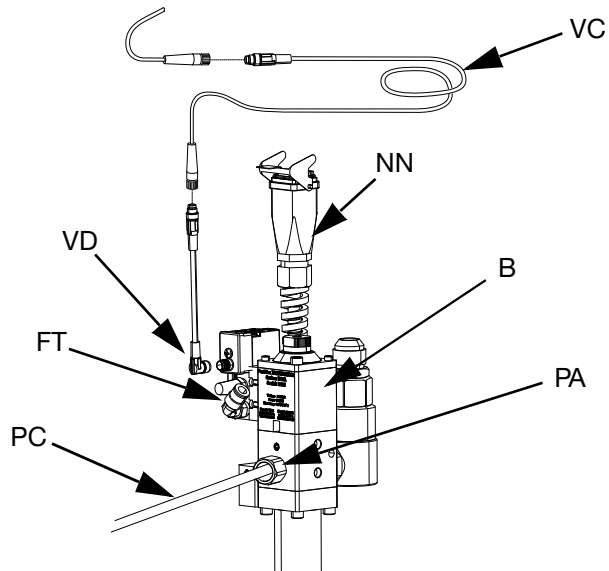

FIG. 31
- Connect the Air Line (AR) (not supplied) to the air fitting (FT) on the dispense valve solenoid. See the iQ Dispense Valves Instructions-Parts manual. See FIG. 31.
- a. Connect the solenoid valve cable (VC) to the M8 4 pin end of the splitter cable attached to Port 4 on the Electric Driver (AB). See **Electric Driver Communication Connections** for Single Rams on page 18. See FIG. 31.
- b. Connect the 90 degree end of the included M8 4 pin cable (VD) to the dispense valve, and the straight end of the solenoid valve cable to (VC). See FIG. 31.
- a. Connect the dispense valve solenoid cable to the tandem dispense valve solenoid connector (YY) on tandem block (R).
- b. Connect the 90 degree end of the included M8 4 pin cable (15N040) to the dispense valve, and the straight end of the solenoid valve cable to (VC). See FIG. 31.
- c. Connect one male end of the M8 4 pin splitter (TT) on the tandem block (R) to the M8 4 pin end of the splitter cable attached to Port 4 on the Electric Driver (AB) for ram 1 and ram 2. See **Electric Driver Communication Connections** for **Tandem Rams** on page 19.